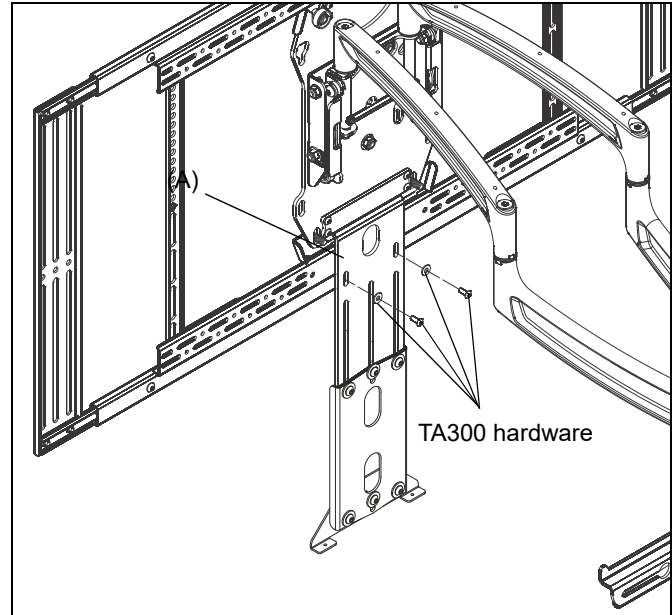

Figure 6
NOTE: If also installing side speaker brackets (TA300), hanging bracket (A) should also be attached to TA300 horizontal brackets for additional support. Use hardware provided with TA300. (See Figure 6)